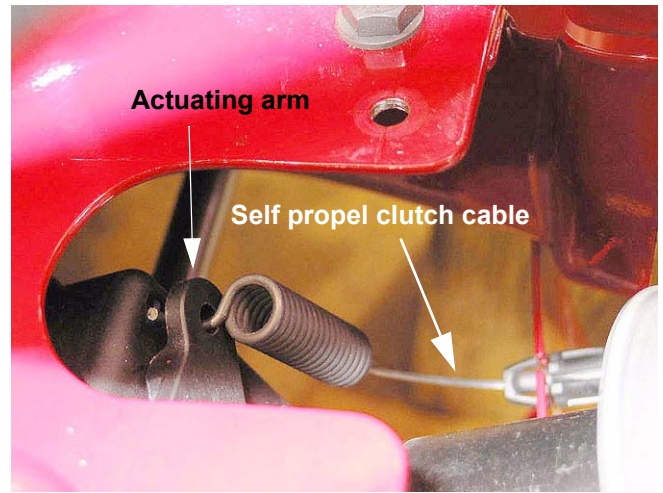

Figure 3.17
- 3.17. Remove spring from transmission actuating arm. (This is the self propel clutch cable) See Figure 3.17.